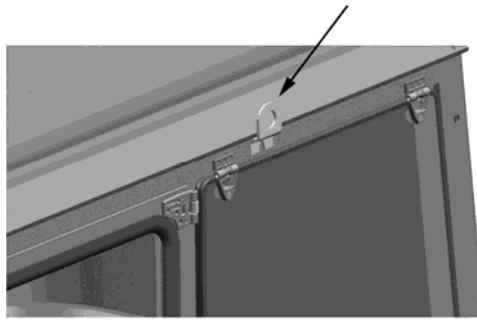

Figure 8.2
- l) hoist cabin above tractor chassis, using for slinging eyelets on the left- and right-side of cabin, make slinging according to diagram (Figure 8.2) (cabin mass ≈ 600 kg);